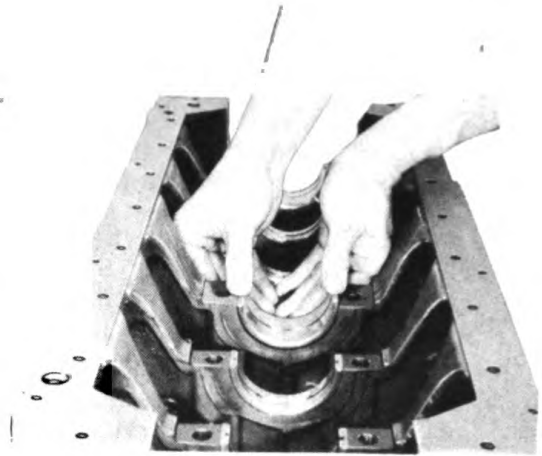

Figure 173. Inserting Main Bearing Upper Halves.
3. Unless the main bearings are new, each must go back in that main bearing support from which it was taken. Their positions in the support must not be reversed. Insert the upper halves of the main bearings in the support. See Figure 173.